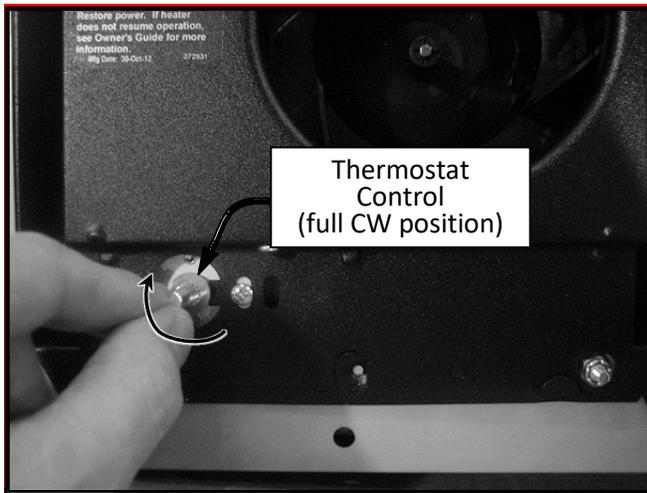

Figure 27
3. Inspect the bottom seal along the bottom bar assembly for wear, tears, and/or abrasion. Replace any worn or damaged parts as required. (See Figure 27)